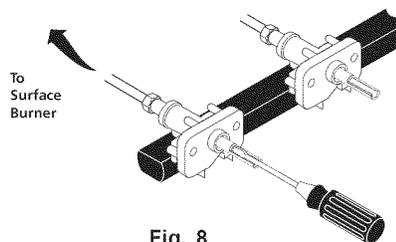

Fig. 8
- Insert a thin-bladed screwdriver into the hollow valve stem and engage the slotted screw inside. Flame size can be increased or decreased with the turn of the screw. Turn counterclockwise to increase flame size. Turn clockwise to decrease flame size. (See Figs. 8 & 9).